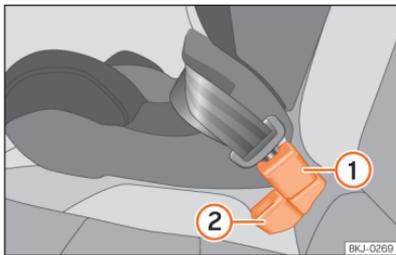

Fig. 43 Position of the belt buckle on the rear seat
- Place the middle seat's belt buckle »»» Fig. 43
① behind the side seat's belt buckle »»» Fig. 43
②.
- Plug the middle seat's seat belt into the middle seat's belt buckle »»» Fig. 43 ① and make sure it clicks in place.
- For seat belts to be correctly fitted, the buckles must not be twisted »»» Fig. 43.